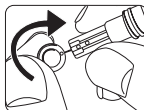

Figure 24
**STEP 3:** Remove the protective cap from the lancet by twisting it and then save it for later use. See Figure 24.